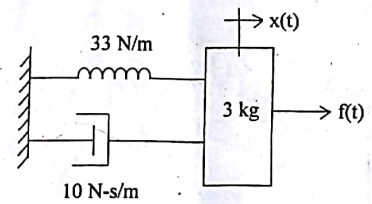

Fig. 5(a)
5. (a) Determine various transient response specifications of the translational mechanical system represented in Fig. 5(a). 8